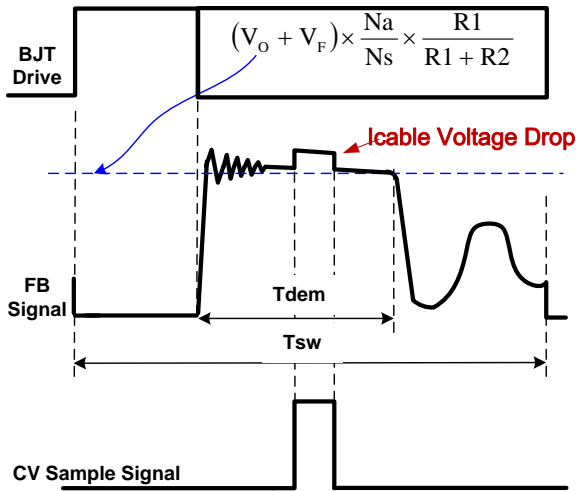

Fig.2
In primary side control, the output voltage is sensed on the auxiliary winding during the transfer of transformer energy to the secondary. Fig.2 illustrates the CV sampling signal timing waveform in U6115. As shown in Fig.2, it is clear that there is a down slope representing a decreasing total rectifier Vf and its voltage drop as the secondary current decreases to zero. To achieve an accurate representation of the secondary output voltage on the auxiliary winding, the CV sampling signal blocks the leakage inductance reset and ringing. When the CV sampling process is over, the internal sample/hold (S&H) circuit captures the error signal and amplifies it through the internal Error Amplifier (EA). The output of EA is sent to the Primary Side Constant Voltage Modulator (PSR-CVM) for CV control. The internal reference voltage for EA is trimmed to 2V with high accuracy.
During the CV sampling process, an internal variable current source is flowing to FB pin for Cable Drop Compensation (CDC). Thus, there is a step at FB pin in the transformer demagnetization process, as shown in Fig.2. Fig.2 also illustrates the equation for “demagnetization plateau”, where Vo and VF is the output voltage and diode forward voltage; R1 and R2 is the resistor divider connected from the auxiliary winding to FB Pin, Ns and Na are secondary winding and auxiliary winding respectively.